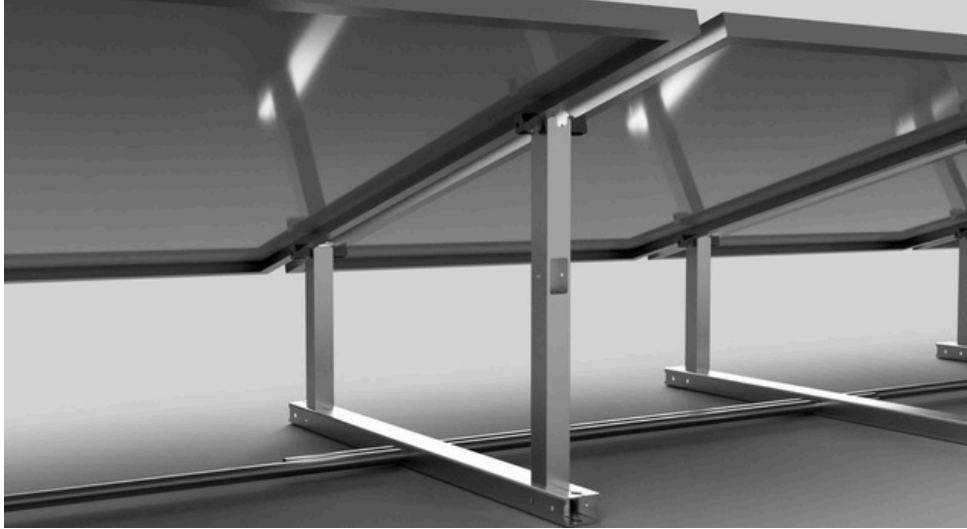

Figure 31
- We recommend installing the tall leg with the opening facing the back of the frame (See Figure 31).
We recommend assembling the IR-15 with the opening on the tall leg facing the back of the frame. This allows for much easier access and faster adjustment from 15°-0° (See Figure 31).